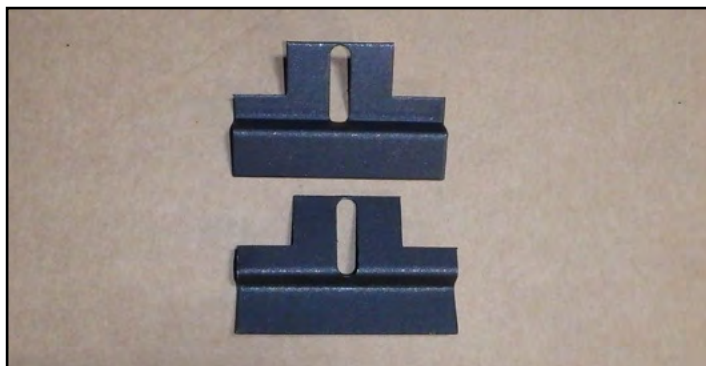

Figure 17.2.02:
Step 1: Remove the two screws located in the top of the firebox. These will be used to install the panel clips included with the panels (see **Figure 17.2.02**).